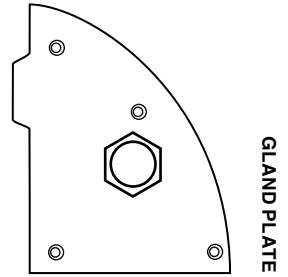

Figure 2
- Drill a 32mm hole in the pool wall (Vinyl / fiberglass conversion kit # 26601 or 266010 required) at 550mm below top of coping. This is where the cable will pass through the wall. See figure 2.